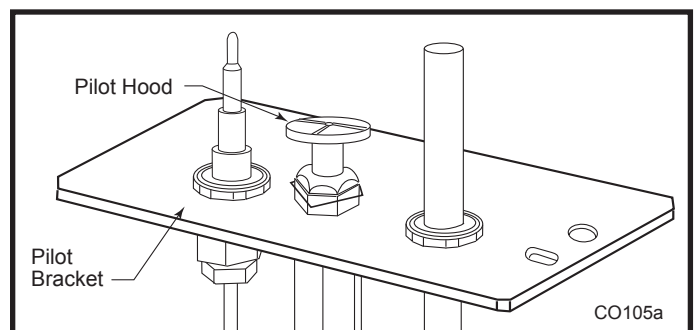

Fig. 56 Remove pilot hood.
6. Replace the three (3) injectors. Refer to Table 1.
8. Remove pilot hood by lifting up. (Fig. 56) **NOTE:** It is not necessary to remove the pilot tube for conversion.